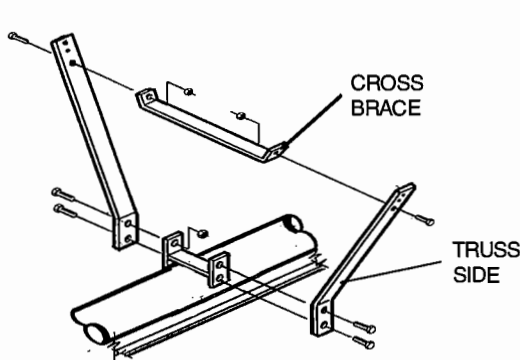

FIG. 20
- Step 1. Loosely bolt center truss sides to truss mount. Use two 1/2" x 1 1/2" long hex head capscrews (grade 5) with a Nylock locknut for each side. See Fig. 20.